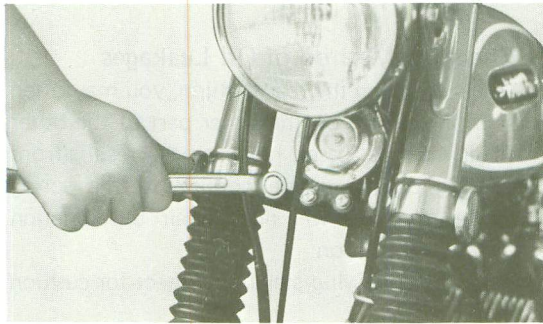

Fig. 5-7-1
- (1) Remove the front fender, and remove the inner tube cap bolt.
- (2) Loosen the inner tube clamping bolt on the underbracket. (Fig.5-7-1)